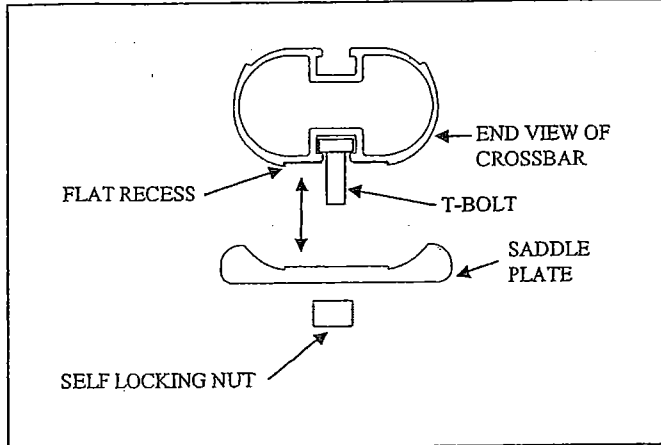
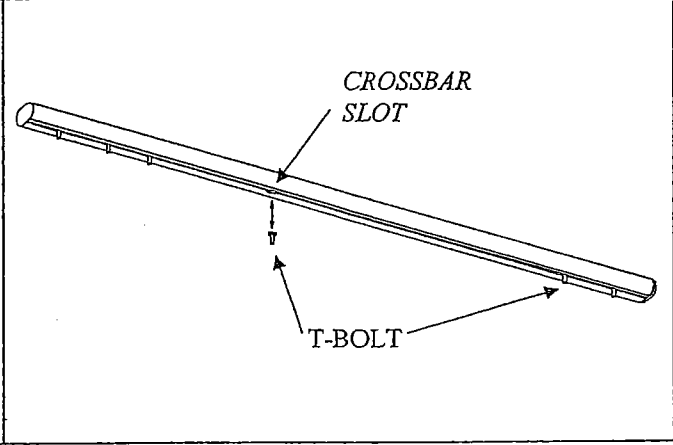

Figure 1A
Figure 1B
- Place each Base Plate on the inside edge of the utility boxes, one at each corner. The wider channel slot in the Base Plate mounts to the top of utility boxes. (See Fig 1A) Make sure the Base Plates are flush with the forward and rear edges of the utility boxes. (See Fig 1B)
2. Orient a Crossbar so that the side with the Flat Recess faces down. *(See Fig 1A)* Insert 6 T-Bolts into the Crossbar Slot in the bottom of the Crossbar. *(See Fig 1B)* Slide 3 T-Bolts to the right and 3 T-Bolts to the left.